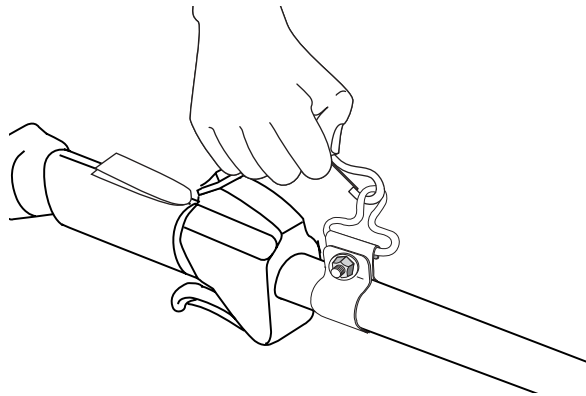

Fig. 7
3. Put the harness on over head and onto the left shoulder. Snap it on to the support fitting (Fig. 7).